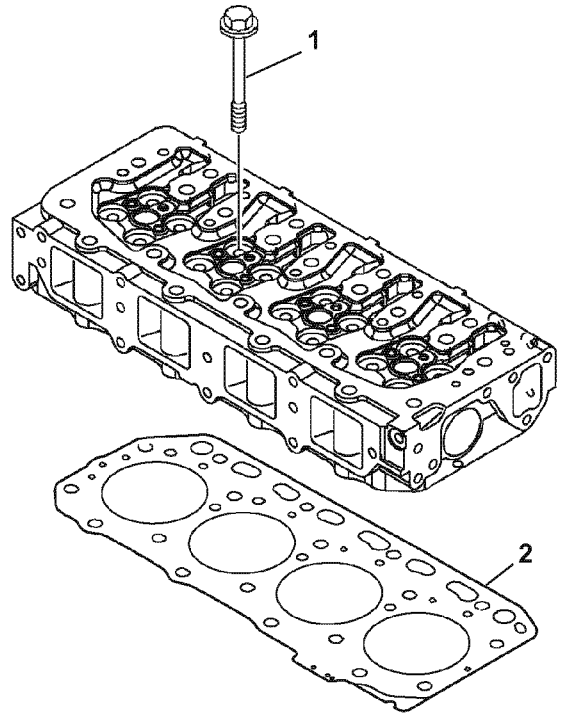

Figure 6-47
2. Remove the cylinder head bolts (Figure 6-47, (1)).
3. Lift the cylinder head away from the cylinder block. Discard the cylinder head gasket (Figure 6-47, (2)). Place the cylinder head on the work bench to prevent damage to the combustion surface.